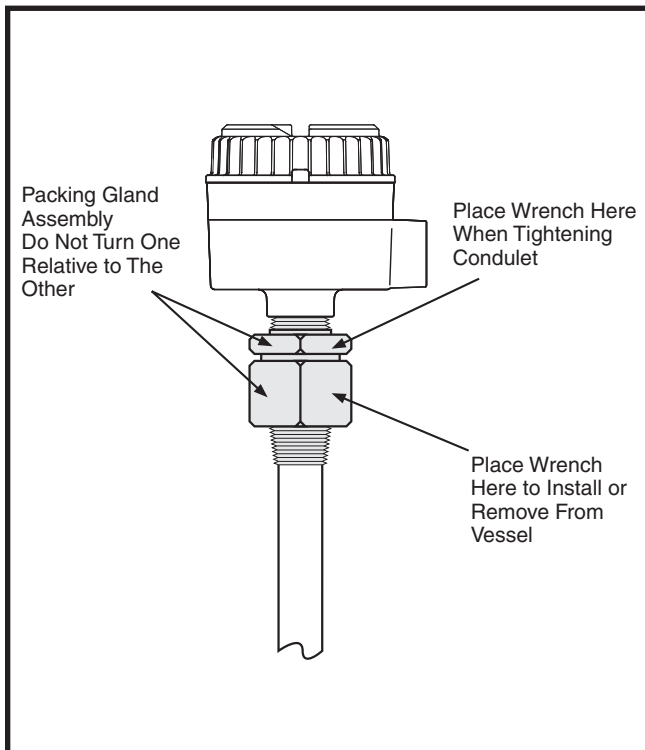

Figure 1
- Do not take the sensing element apart or loosen the packing glands - Follow instructions in **Figure 1** below.